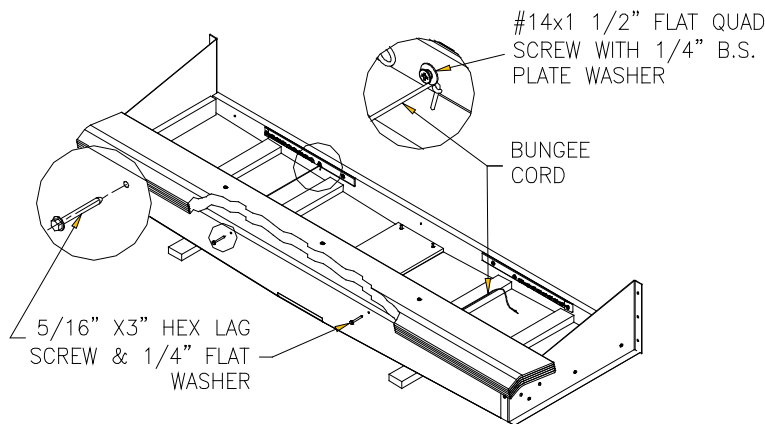

FIG. 6b
### c. Remove 5/16" x 3" lag bolts from front of head frame using 1/2" socket wrench (Fig. 6b).
- Insert 5/16" x 3" lag bolts and tighten, using 1/2" socket wrench (Refer back to Fig. 6b).